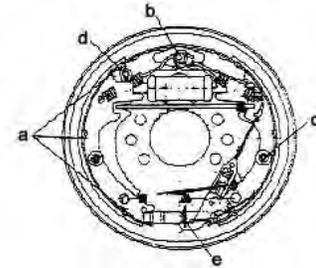

figure 2-25
(1) Wipe brake liquid on cup leather and piston of brake sub-pump, assembling spring, piston cup leather, piston and defend ring.
(2) Install brake sub-pump on motherboard.
(3) Mount motherboard on drive axle.
(4) Wipe anti-heat lubricate grease on the region instructed in figure 2-25.